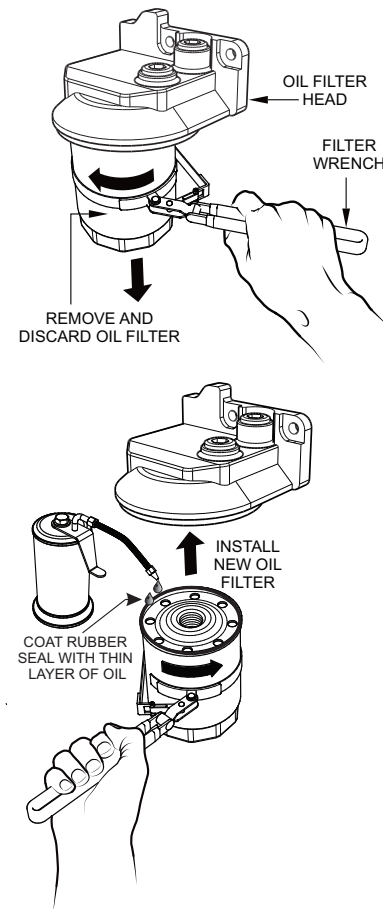

**Figure 70. Draining The Engine Oil**
4. Remove the **oil drain cap** (Figure 70).